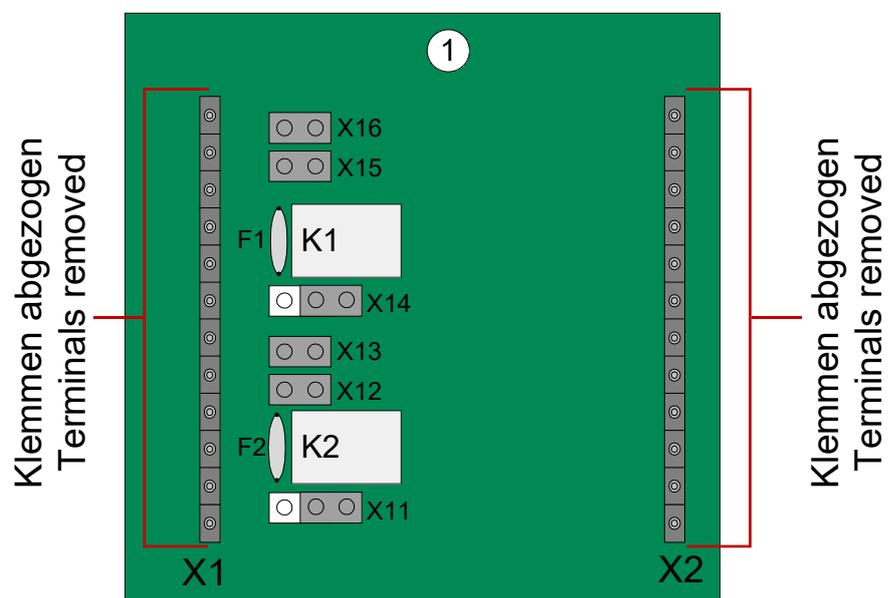

Fig. 8: esserbus® transponder (component side) ① with the terminals removed and jumper example
- Configure the jumpers of the transponder before installation (see Fig. 8).